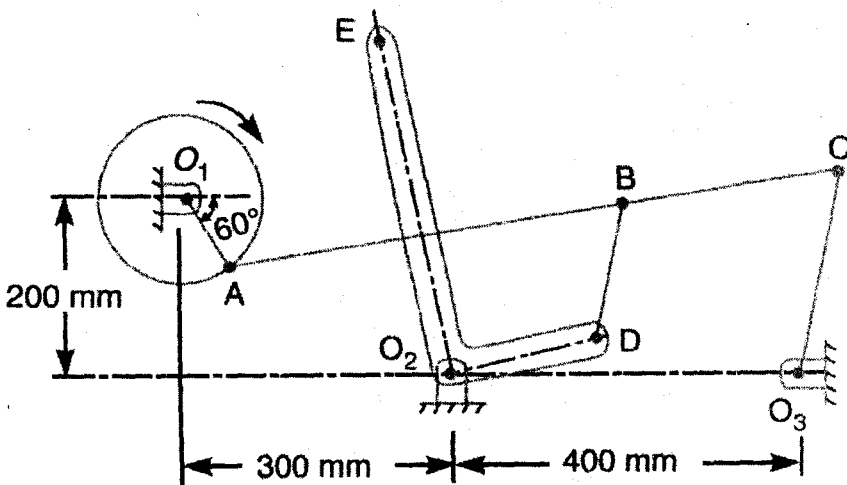

Figure 3
4. Consider the mechanism shown in Fig. 3. Link dimensions are: $O_1A=100$ mm, $AC = 700$ mm, $BC = 200$ mm, $BD = 150$ mm, $O_2D = 200$ mm, $O_2E = 400$ mm, $O_3C = 300$ mm. The angular velocity of the crank O_1A is 100 rad/s. Determine